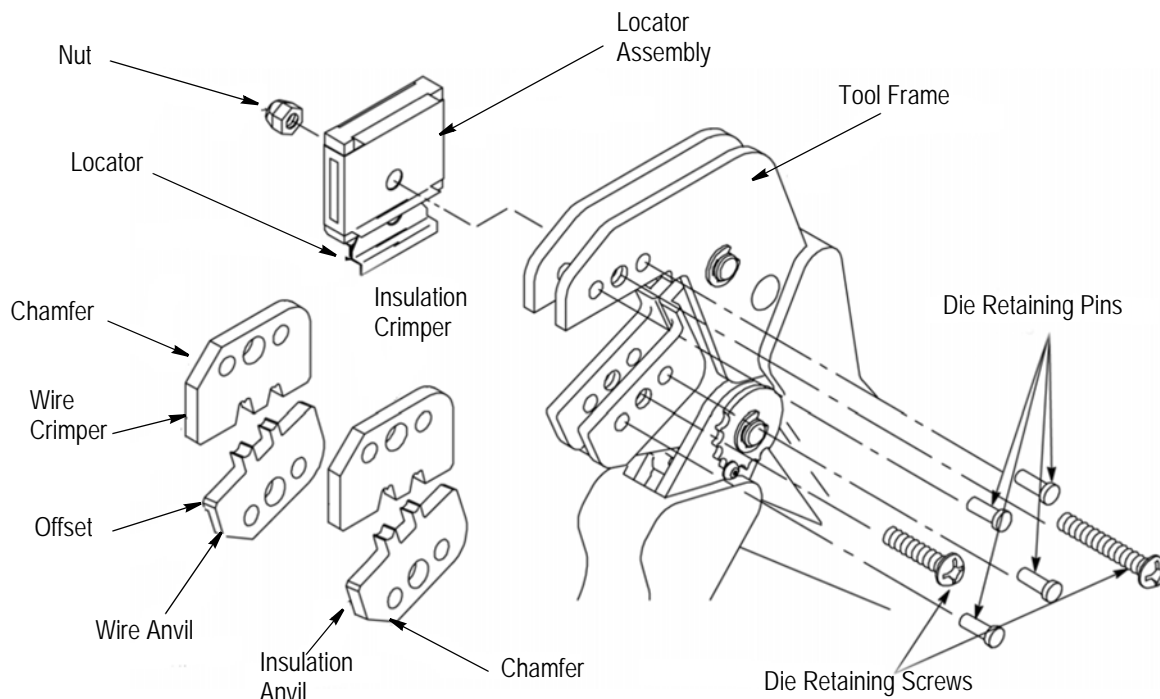

Figure 2
Refer to Figure 1 and Figure 2.
1. Open the tool handles and remove the two die retaining screws from the tool jaws. See Figure 2.
6. Insert the two die retaining pins. See Figure 2.